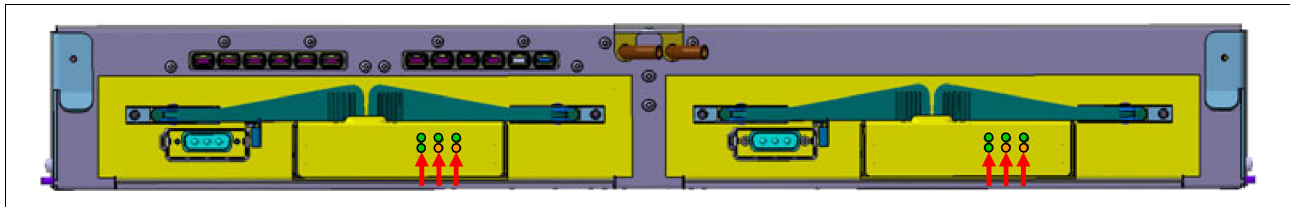

Figure 4-16 DCA LED indicators
3. See Figure 4-16, Table 4-2, Table 4-3, and Table 4-4 on page 82 for information about the DCA LED indicators for the node board. Figure 4-16 shows the DCA LED indicators.